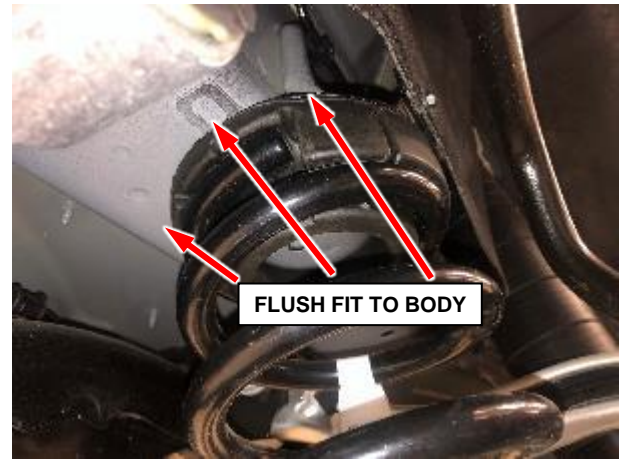

Figure 3 – Upper Spring Isolator to Body
- 3. Verify that the upper spring isolator is seated flush to the body on the welded pilot on the body (Figures 3 and 4).